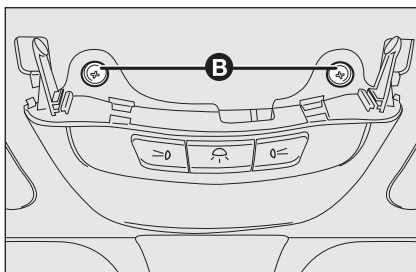

fig. 34
- loosen the two fastening screws **B**-fig. 34 to disassemble the unit;